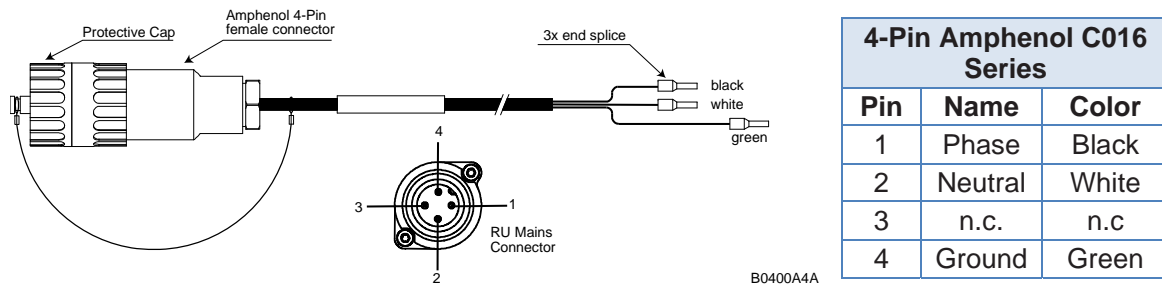
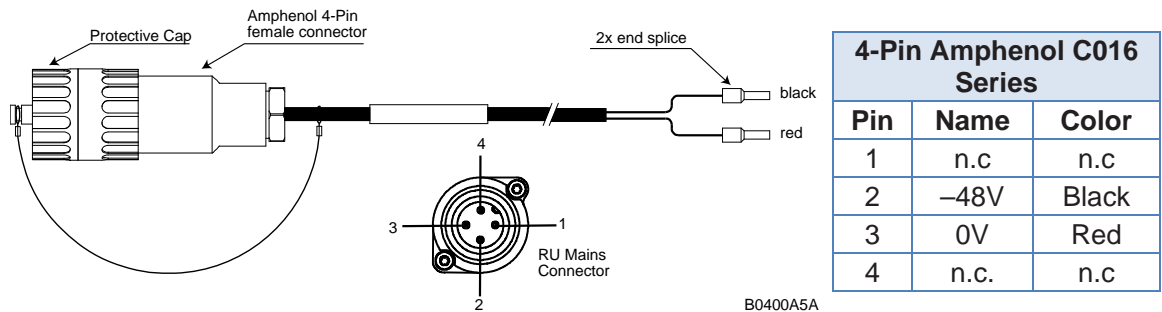
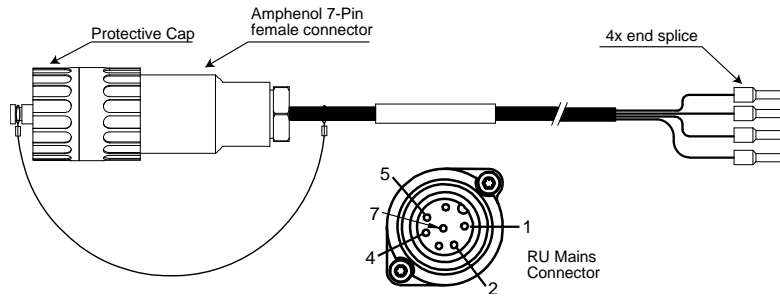

figure 4-19 AC power cable
figure 4-20 DC power cable
figure 4-21 Vdc/100 power cable
The AC power cable is a 3.2 m (10.5 ft) 16 AWG cable with a 4-pin Amphenol C016 series plug on one end to connect to the RU Mains connector. The other end of the cable is un-terminated with 3 end splices to connect to the AC power source. A 10 m (33.7 ft) AC power cable is also available as an option. The AC power cable is shown in figure 4-19.
The standard DC power cable is a 3.2 m (10.5 ft) 13 AWG cable with a 4-pin Amphenol C016 series plug on one end to connect to the RU Mains connector. The other end of the cable is un-terminated with 2 end splices to connect to the -48 Vdc power source. The standard DC power cable is shown in figure 4-20.
4. Wire the power cable to the junction box or receptacle. Refer to the color code and pin numbers shown in figure 4-19 (AC cable), figure 4-20 (DC cable), or figure 4-21 (Vdc/100 cable) depending on the type of power supply used by the unit.